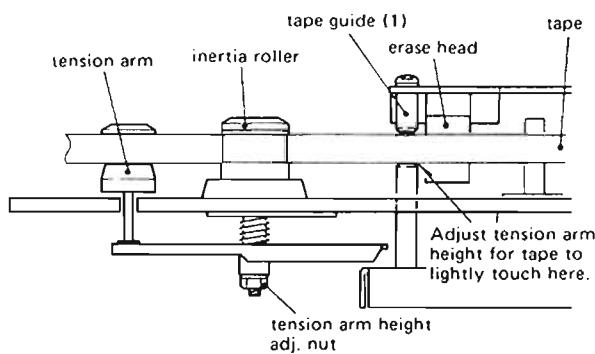

Fig. 2-21 Tension arm height adjustment
1. Running a TEAC YTT-8013 test tape (thickness = 35 μm) in the forward direction, adjust the height of the left tension arm so that the lower edge of the tape is just touching the lower edge of the tape guide (1). See Fig. 2-21. Also refer to 2-10 TENSION ARM HEIGHT ADJUSTMENT".
2. Adjust the height of the tape guide (2) so that the upper edge of the tape is in contact with the upper edge of the tape guide.
4. Apply locking paint to the height adjusting nut of the tape guide (2).
5. During reverse play, adjust height of tape guides (3) and (4) in the same way as steps 1 ~ 4. For tape guide (4), adjust right tension arm height.